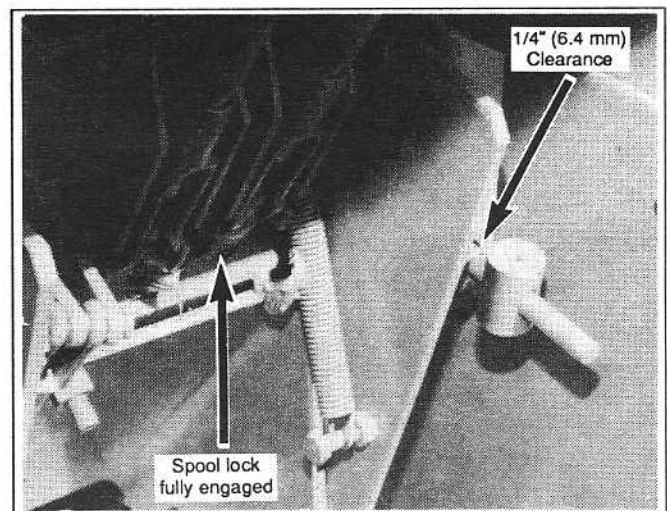

Figure 1-7
3. With left hand seat belt fully relaxed (against ROPS back panel), there should be a minimum of 1/4 inch (6.4 mm) clearance between the spool lock stop and the spool catch lever. Adjust if necessary. (See figure 1-7)
3. With seat belt in fully retracted position and spool catches completely locked, the spool lock stop **MUST NOT** make contact with the spool catch lever. A minimum of 1/4 inch (6.4 mm) clearance must be maintained. (See figure 1-7 and 1-9)